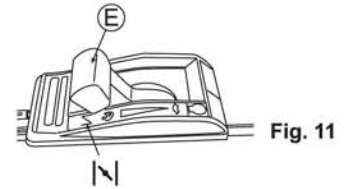

Fig. 11
3. Set Throttle lever (E) to Choking "I". (See Fig. 11) (The engine can start by setting the lever at "II" when it is warm.)